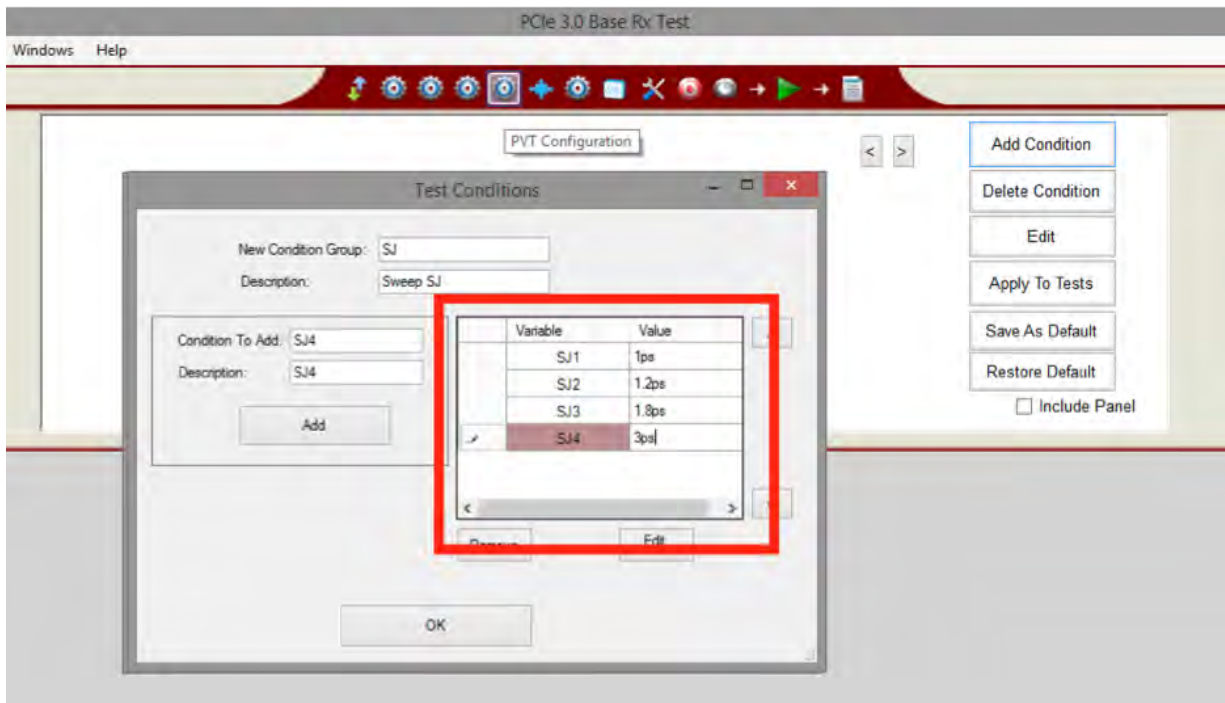

FIGURE 109 SET EACH PVT PARAMETER VALUE IN SEQUENCE
3. Enter one or more parameter value for the steps of the test condition sequence. Take care to include the suffix for the units, and to assign values which are appropriate for that parameter according to the PCIe3 specification. See Figure 109, which shows four steps for parameter ‘SJ’, named ‘SJ1’, ‘SJ2’, ‘SJ3’ and ‘SJ4’, and assigned values 1ps, 1.2ps, 1.8ps and 3ps, respectively. When finished editing the Test Conditions, click on “OK”. Note that individual steps may be selected, then edited or removed from the list.